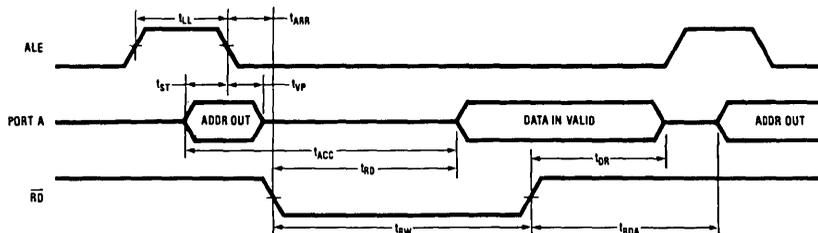

FIGURE 1. CPU and DMA Read Cycles
**CPU Read Cycle Timing** (See Figure 1)
**DMA Read Cycle Timing**  $f_C = 20$  MHz (See Figure 1)